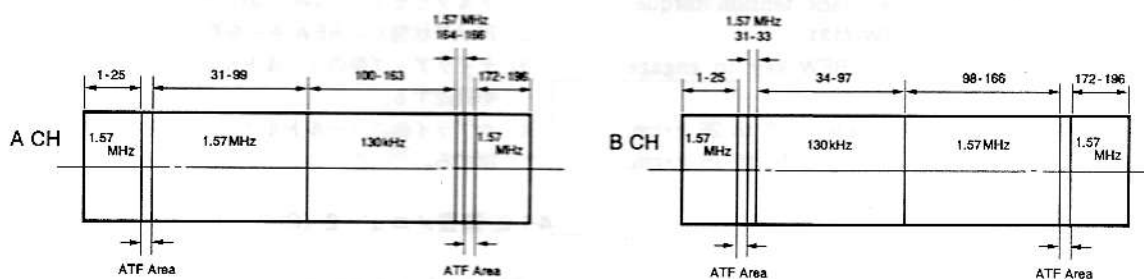

Fig. 4-2 Frequency patterns of the level checking test tape (TY-7111)
- Level tape : TY-7111 (TY-7111X) manufactured by SONY (Refer to Fig. 4-2)
(図4-2参照)